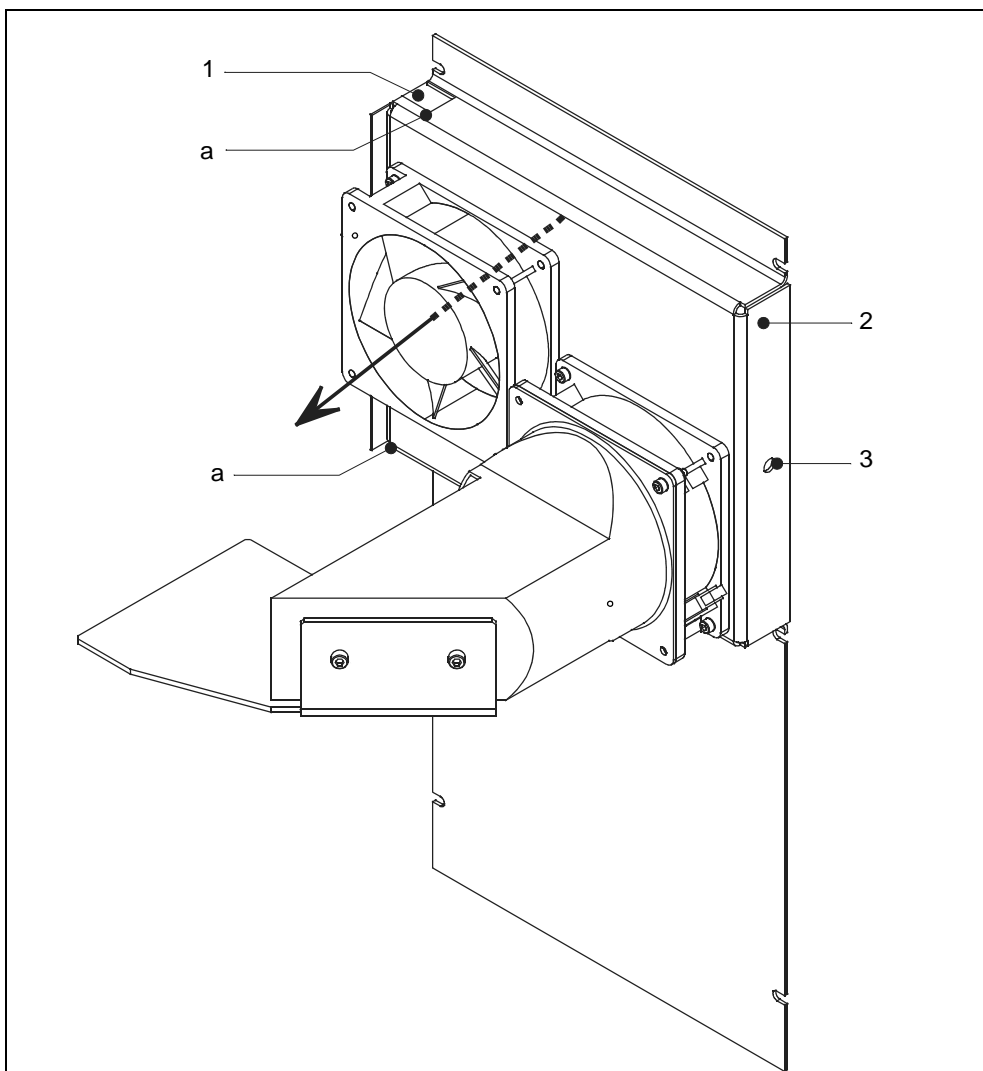

Fig. 9-2 Replacement of the air filter in the chassis wall
- Take hold of the filter insert with two fingers at the locations shown in Fig. 1-2/a and pull the filter insert out of the guide. Should this not be possible, use a tool to press the filter through the rear ejection bore Fig. 9-2/3 to the front.
- When inserting the new air filter insert, note the direction of the air flow. It is indicated in the figure above Fig. 9-2 by a black arrow.